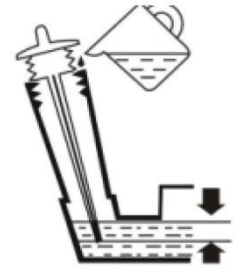

Figure 10
3. The oil level shall be between the marks "HIGH" and "LOW". See Figure 10.
4. It necessary fill with oil up to the FULL mark. See Figure 10.